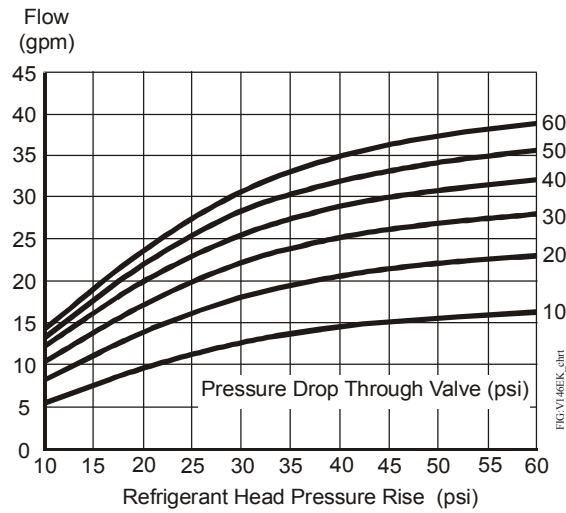
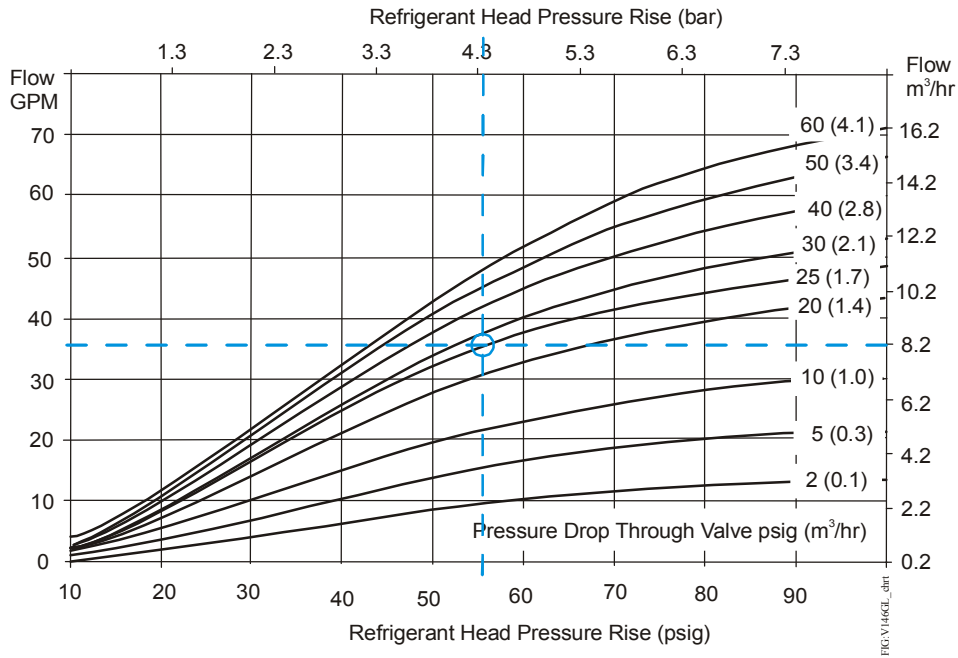

Figure 6: 3/4 in. V146EK Valve
Figure 9: High Refrigerant Pressure 1 in. V146GL1 Valves
To make a rough field estimate of the size of valve for an application, find the valve size by locating a point on a flow chart (see Figure 6 through Figure 9) that satisfies these requirements:
Follow these steps, and use the information obtained to locate a point on one of the flowcharts (Figure 6 through Figure 9) that satisfies all three steps.
4. Using the following data and the flowcharts, the only valve that comes close to meeting all the criteria (without being oversized) is the V146GL1 valve (see Figure 9):